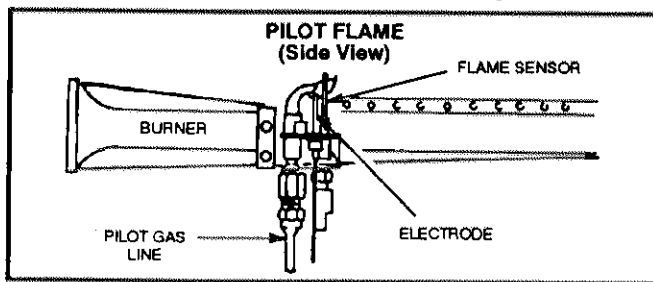

FIGURE 22
- 1- *Pilot Flame* -- Pilot flame must surround the end of flame sensor for proper operation of pilot safety circuit. See figure 22.